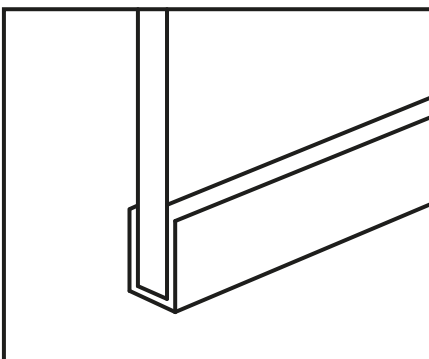

Figure 7
9. Check that the outer edge of the glass pane is aligned with the outer edge of the U-profile. (Figure 7)